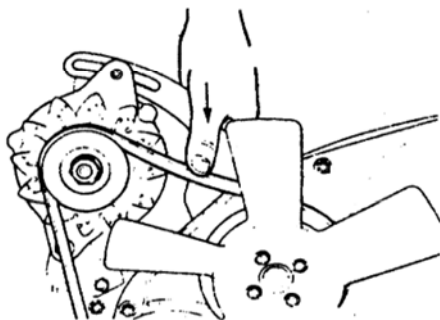

Fig. 1.4-1
1) Check the presence and absence of crack, break, distortion, abrasion and cleanliness of belt. Check belt tension force. Press the belt with thumb(about 10kg force), if it bends 6-9mm, show the tension force is appropriate, as shown in Fig. 1.4-1.